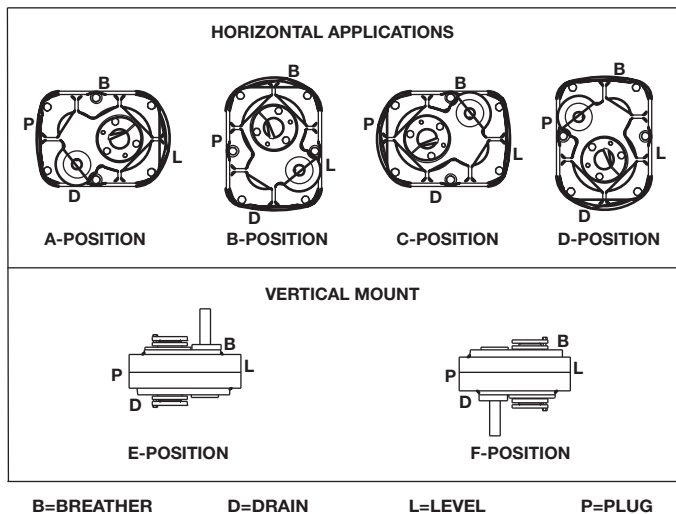

Figure 3 - Mounting Positions
1. Determine the running positions of the reducer (Figure 3). Note that the reducer is supplied with 7 plugs; 5 around the sides for horizontal installations and 1 on each face for vertical installations. These plugs must be arranged relative to the running positions as follows:
① Below 15 RPM output speed, oil level must be adjusted to reach the highest oil level plug (P).
② Refer to Figure 3 for mounting positions.
**Note:** If reducer position is to vary from those shown in Figure 3, either more or less oil may be required. Consult Dodge product support.
③ U.S. Measure: 1 qt. = 32 fl. oz. = .94646 liters.
④ All liquid measure amounts are approximate.